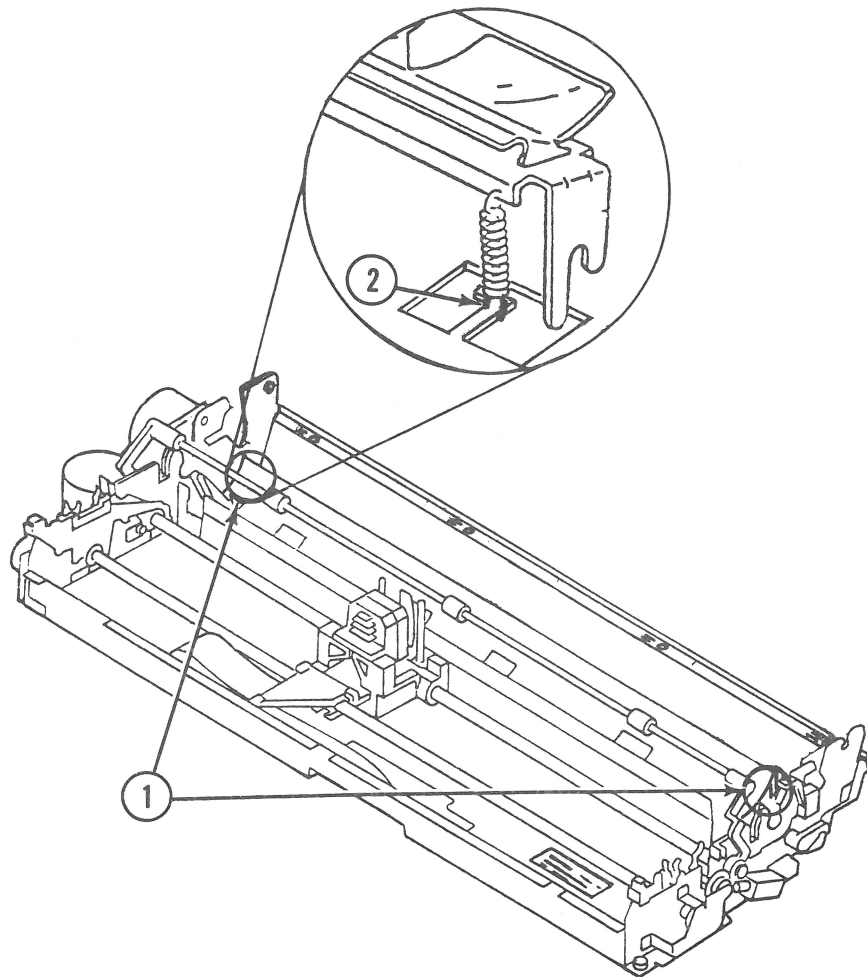

FIGURE 11
1. Connect the new paper cradle springs, one to each end of the new paper pan subassembly (Figure 11, #1).
2. Install the new paper pan subassembly into the machine. Attach the springs to the small extension on the paper guide plate (Figure 11, #2).